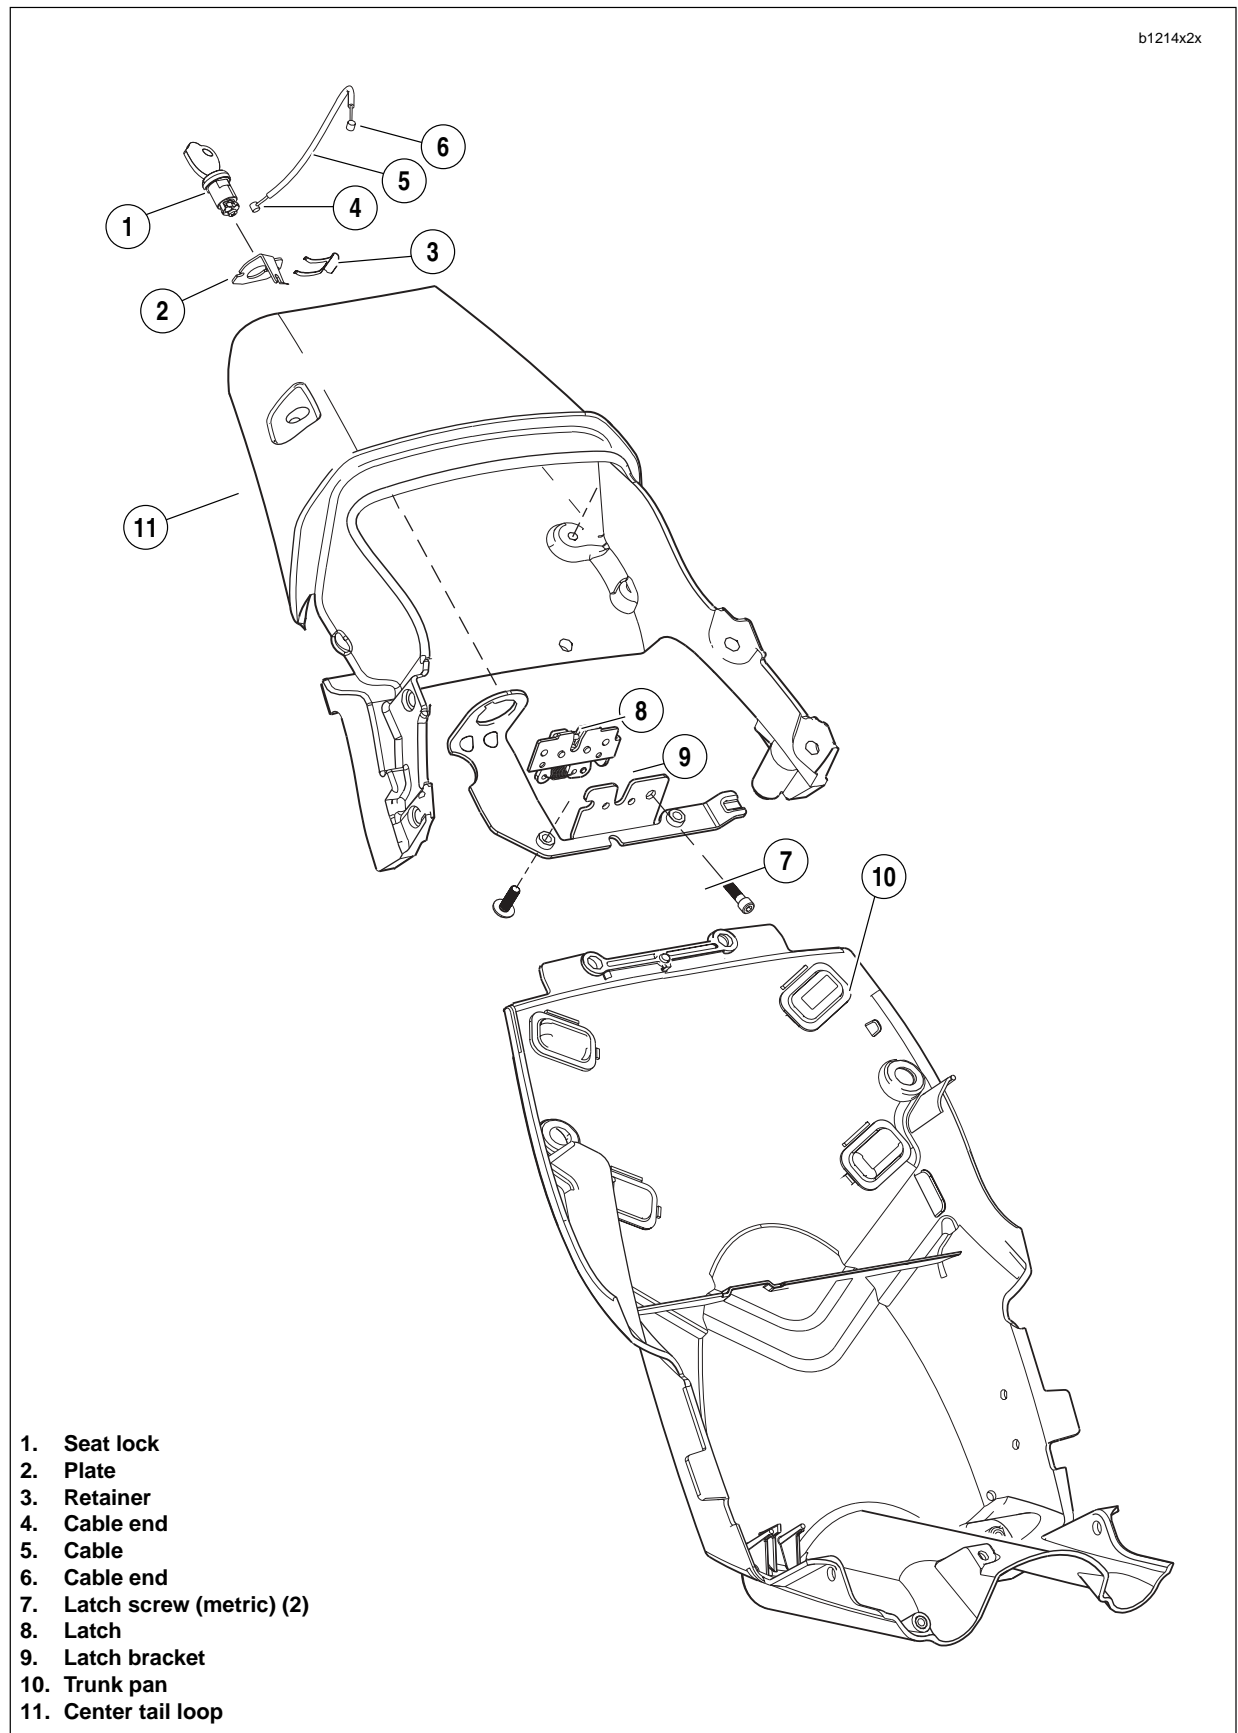

Figure 2-135. Seat Lock Assembly
3. See Figure 2-135. Disconnect seat lock cable (5):
- a. Remove latch (8) from latch bracket (9) by removing two fasteners (7).
- b. Remove cable end (6) and cable (5) from latch (8).
- b. Remove seat lock retainer (3) from seat lock (1).
- c. Remove seat lock (1) from plate (2) and license plate bracket.
1. See Figure 2-135. Install cable (5) into plate (2).
2. Install the seat lock (1) into license plate bracket and plate (2).